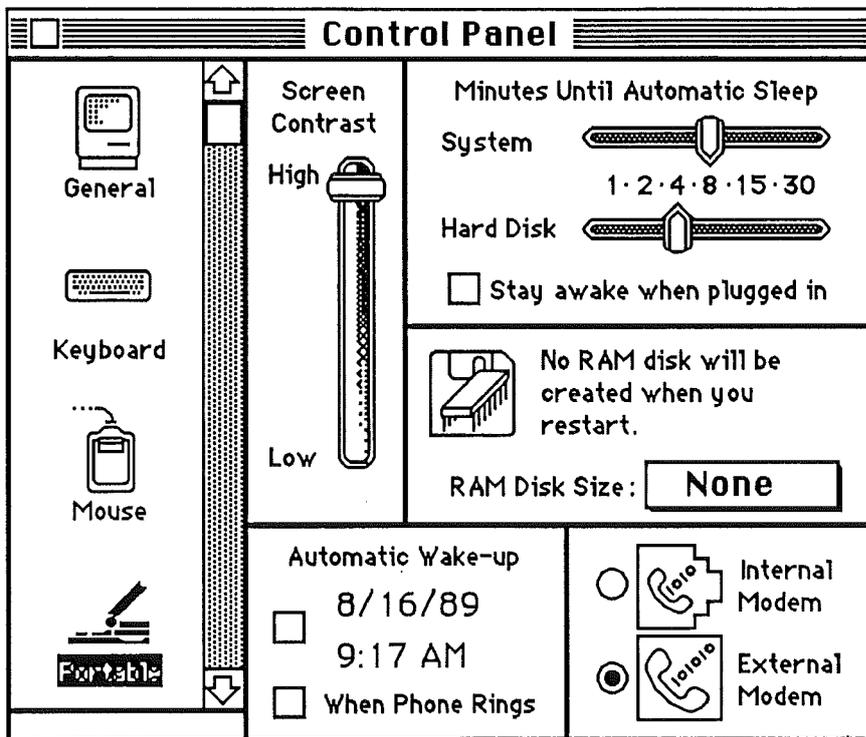

FIGURE 6
3. **Figure 6-A.** Remove the modem cap by pushing it out through the rear of the computer.
4. **Figure 6-B.** Locate the modem card connector.
5. **Figure 6-C.** Position the card over the connector and plug in the card. Make sure the card is on the right side of the modem gasket.
2. **Figure 6-D.** Open the Control Panel and select the Portable CDEV.